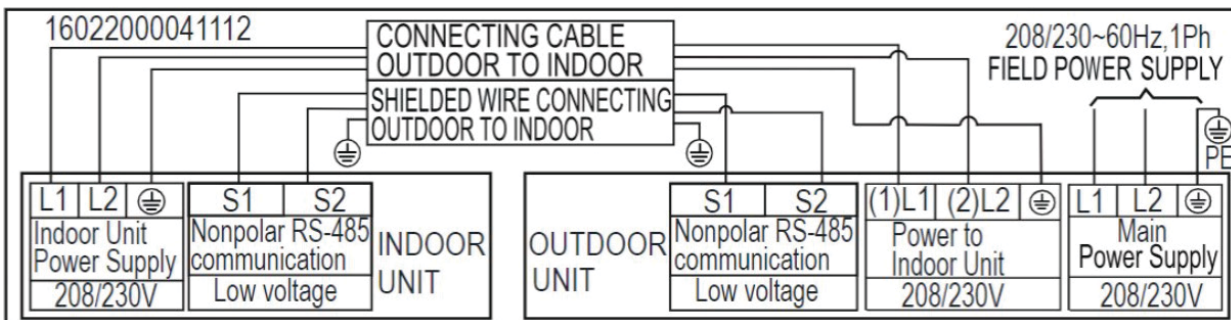

Fig. 26 —Connection Diagram (Sizes 36K-58K)
2. All connections between indoor and outdoor units must be as shown in Figure 26. The connections are sensitive to polarity and will result in a fault code.